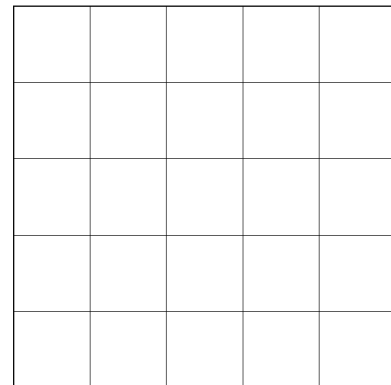

Fig. 15.2.5:
- Draw the vector diagram for the voltages U , U_R , U_C in Fig. 15.2.5.